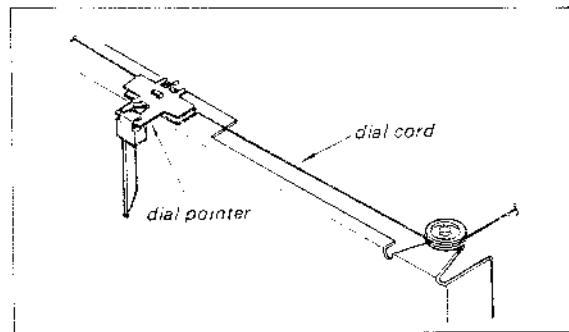

Fig. 2-10. Dial pointer installation
- Put the dial pointer on the cord as shown in Fig. 2-10, and then tune the receiver to the local fm station. Move the dial pointer to the position where the pointer indicates the local station's carrier frequency. Apply a drop of contact cement to it.